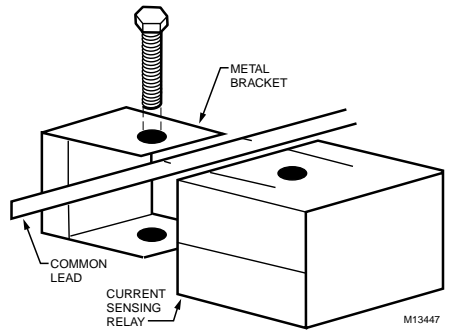

Fig. 1. Relay attached to furnace blower motor common wire.
2. Attach the relay to the furnace blower motor common wire. See Fig. 1.